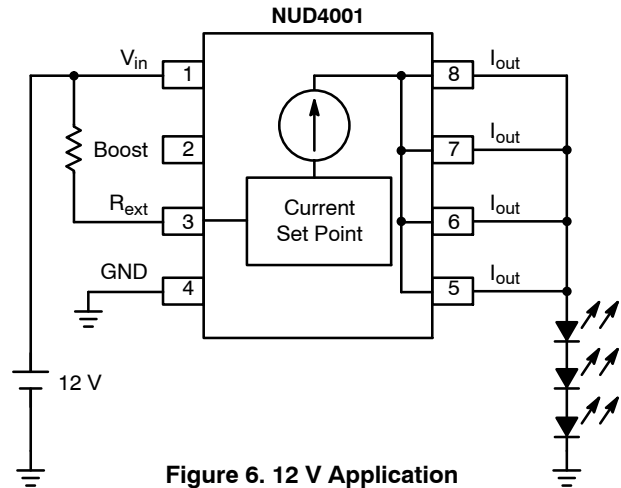

Figure 6. 12 V Application
- a. Per example in Figure 6,  $V_{in} = 12 \text{ V}$
- a. Per example in Figure 6,